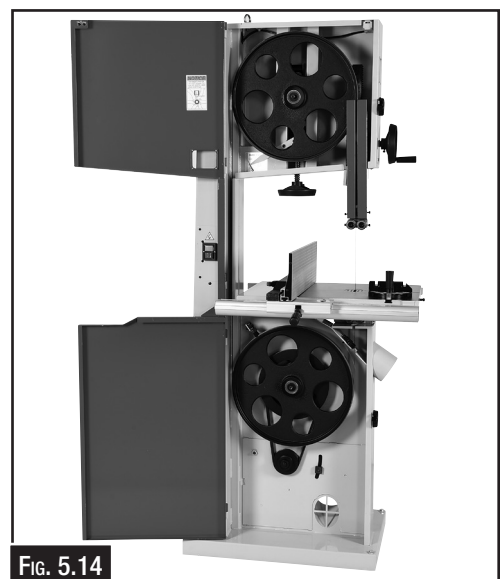

FIG. 5.14
4. Open the upper and lower wheel covers, (Fig. 5.14) Put on leather gloves and slide the blade off both wheels.